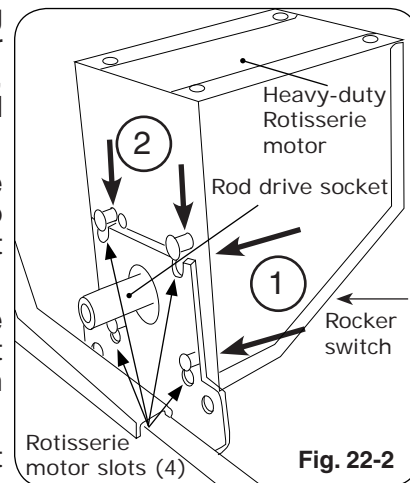

Fig. 22-2
2. Slide rotisserie motor fully onto motor bracket (right side, Fig. 22-2).